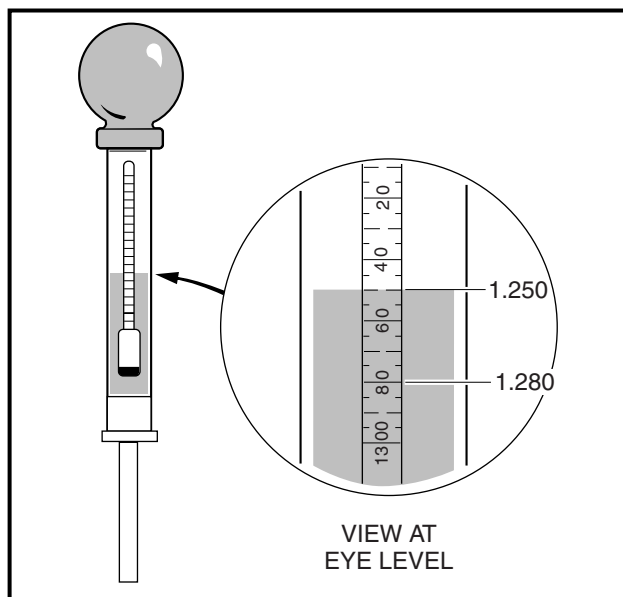

Figure 11-23 Hydrometer Test
A hydrometer (CCI P/N 1011478) measures the specific gravity. The higher the specific gravity, the higher the state of charge of the battery. A fully charged battery should read between 1.250 and 1.280 at 80 °F (27 °C). Never add acid to the battery to obtain a higher specific gravity (**Figure 11-23, Page 11-21**).
6. Hold the hydrometer vertically, ensuring that the float is not contacting the sides of the glass tube. Hold the hydrometer at eye level and read the scale at the level of electrolyte (**Figure 11-23, Page 11-21**).